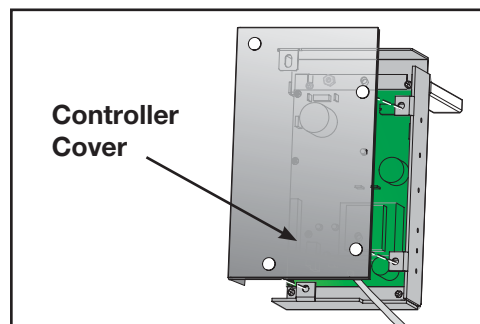

Figure 10
A. Pull out on the controller cover (it will snap out). See Figure 10.
- A. Place cover in position and secure by pushing the finned fasteners in place. See Figure 10.